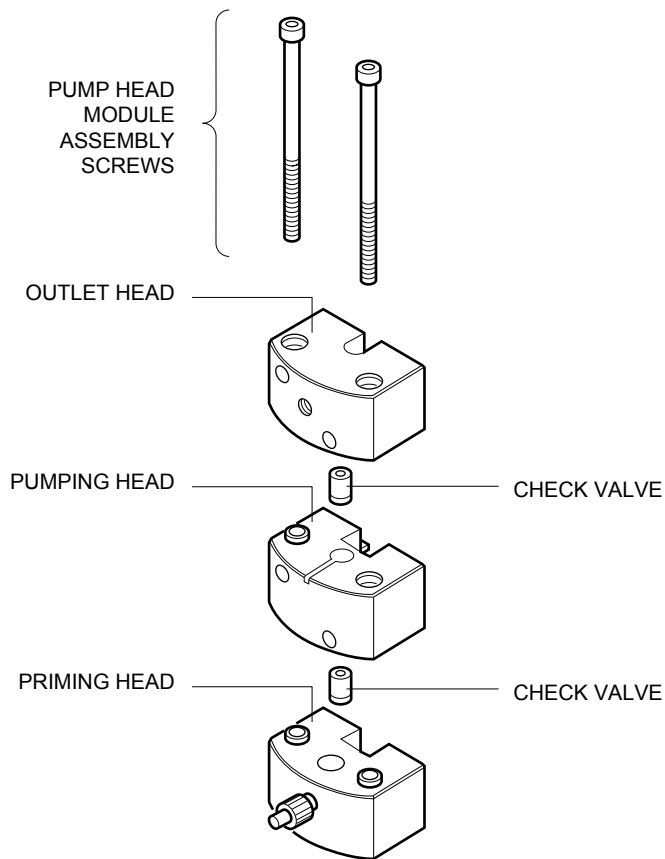

Figure 3. Pump Head Module Assembly
- b. Remove the two Pump Head Module Assembly screws at the **top** of the module. See Figure 3.
- e. Reassemble the pump head as shown in Figure 3. Replace the two pump head module assembly screws and tighten firmly.